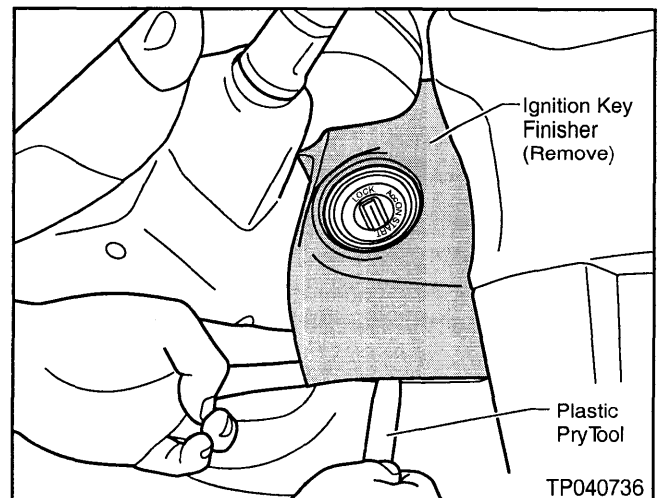

Figure 2
- b. Remove the Ignition Key Finisher using a Plastic Pry Tool (see Figure 2).